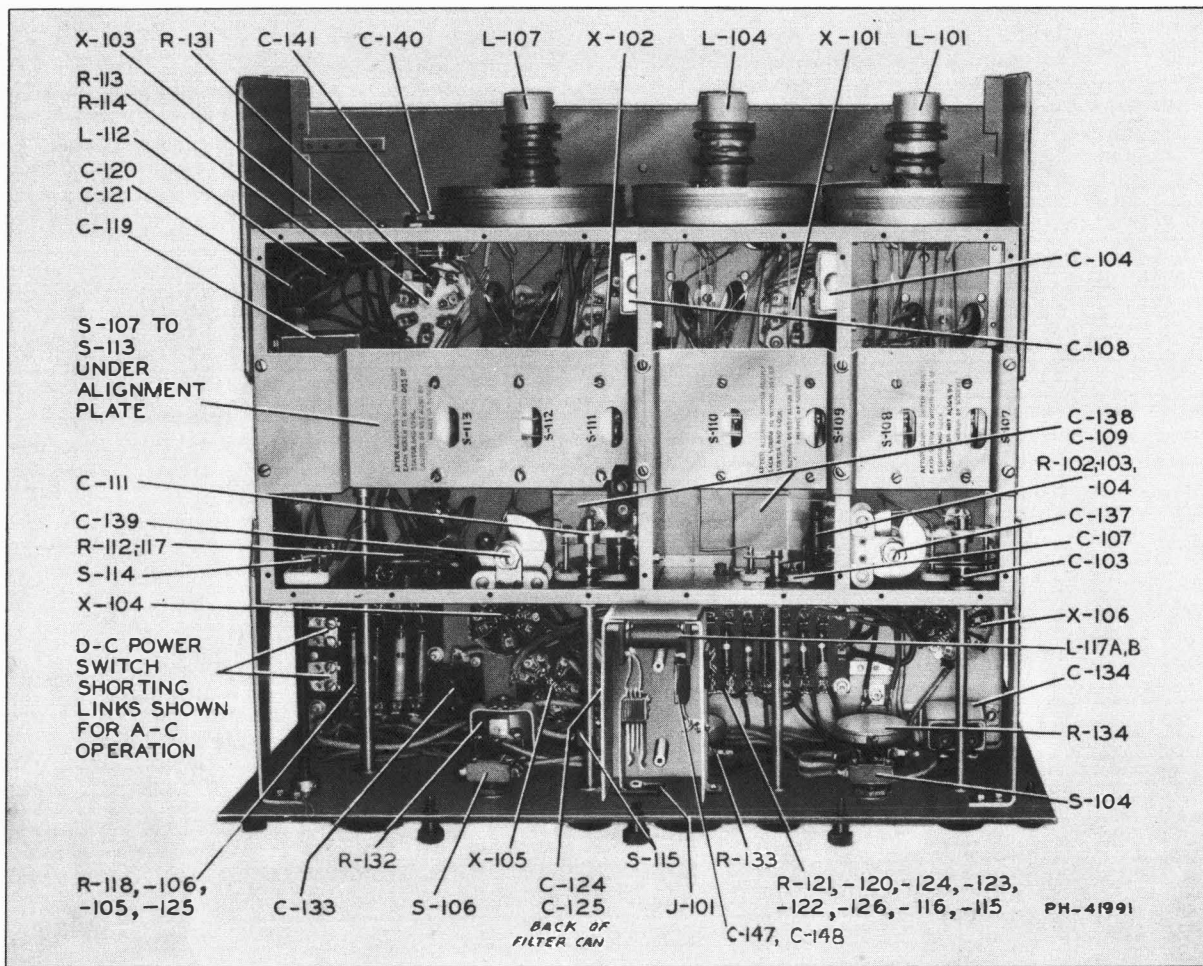

Figure 6—Receiver Unit CRV-46156 (Bottom View of Chassis—Covers Removed)
- 9.4-8 Normally, the a-c power is controlled either from the control unit or the power unit. In addition, a d-c power "On-Off" switch is provided on the receiver panel for use only in the event the receiver in an emergency is operated on batteries. *If this switch is opened when the receiver is normally operated on a.c., the load is removed from the power unit and overloading and damage of certain of its parts may result.* For this reason, shorting links are provided behind the panel (see Figure 6) which permanently close this switch circuit. If it is desired in an emergency to operate the receiver on batteries, these links should be opened.
- 9.7-2 A filter assembly connected to the output jack J101 and consisting of coils L117A and L117B and by-pass capacitors C147 and C148 eliminates signal pick-up on the phone leads. The shield around the phone jack prevents direct radiation from the jack itself. See Figure 6.
- 10.1-19 "DC POWER OFF-ON" Switch: This switch is not used in the normal operation of this equipment and is accordingly wired out of the circuit by short-circuiting links located under the chassis (see Figure 6).
- NOTE:** HOWEVER, SHOULD OCCASION ARISE, THIS EQUIPMENT MAY BE OPERATED FROM A BATTERY SUPPLY CONSISTING OF SUITABLE FILAMENT AND PLATE BATTERIES. THIS METHOD OF OPERATION WILL REQUIRE OPENING OF THE SHORT CIRCUITING LINKS (SEE FIGURES 6 AND 20), AND CONNECTION OF CABLE W-201 AS INDICATED BY THE DOTTED LINES IN FIGURE 16. OPERATION OF THE RECEIVER WILL THEN BE CONTROLLED BY THE "DC POWER" SWITCH ON THE FRONT PANEL.